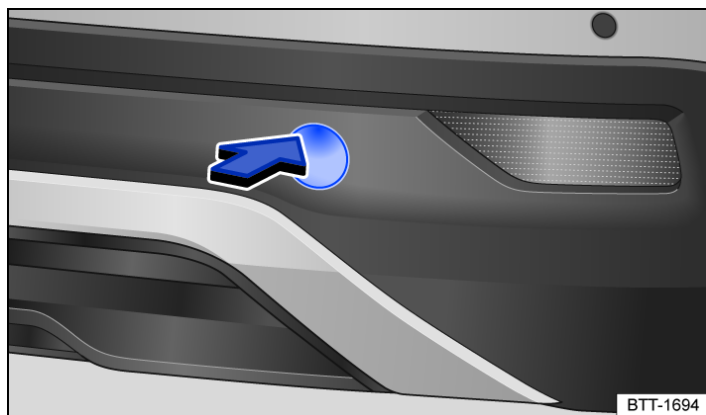

Fig. 1 In the rear bumper on the right: screwing in the towing eye: removing the cover.
- Push the upper part of the cover in the direction of the arrow to release the cover → Fig. 1.